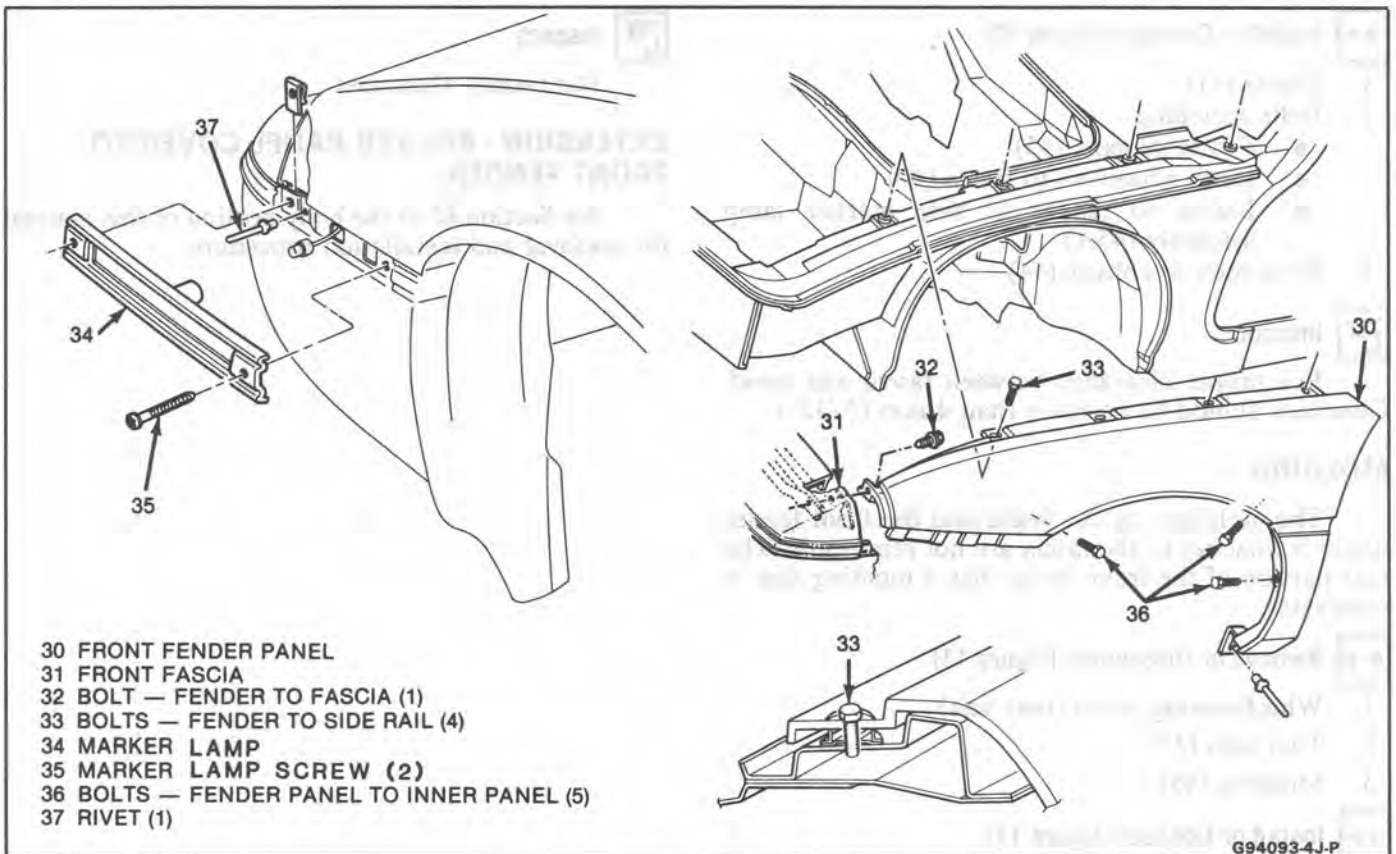

Fig. 7-Front Fender Panel Attachment
### ↔ Remove or Disconnect (Figure 7)
### →← Install or Connect (Figure 7)
1. Six screws at chassis (44)
2. Side marker lamp assemblies (34, Fig. 7)
- Inner wheelwell to fascia (40)
- Fascia support (45)
4. Fascia (31)